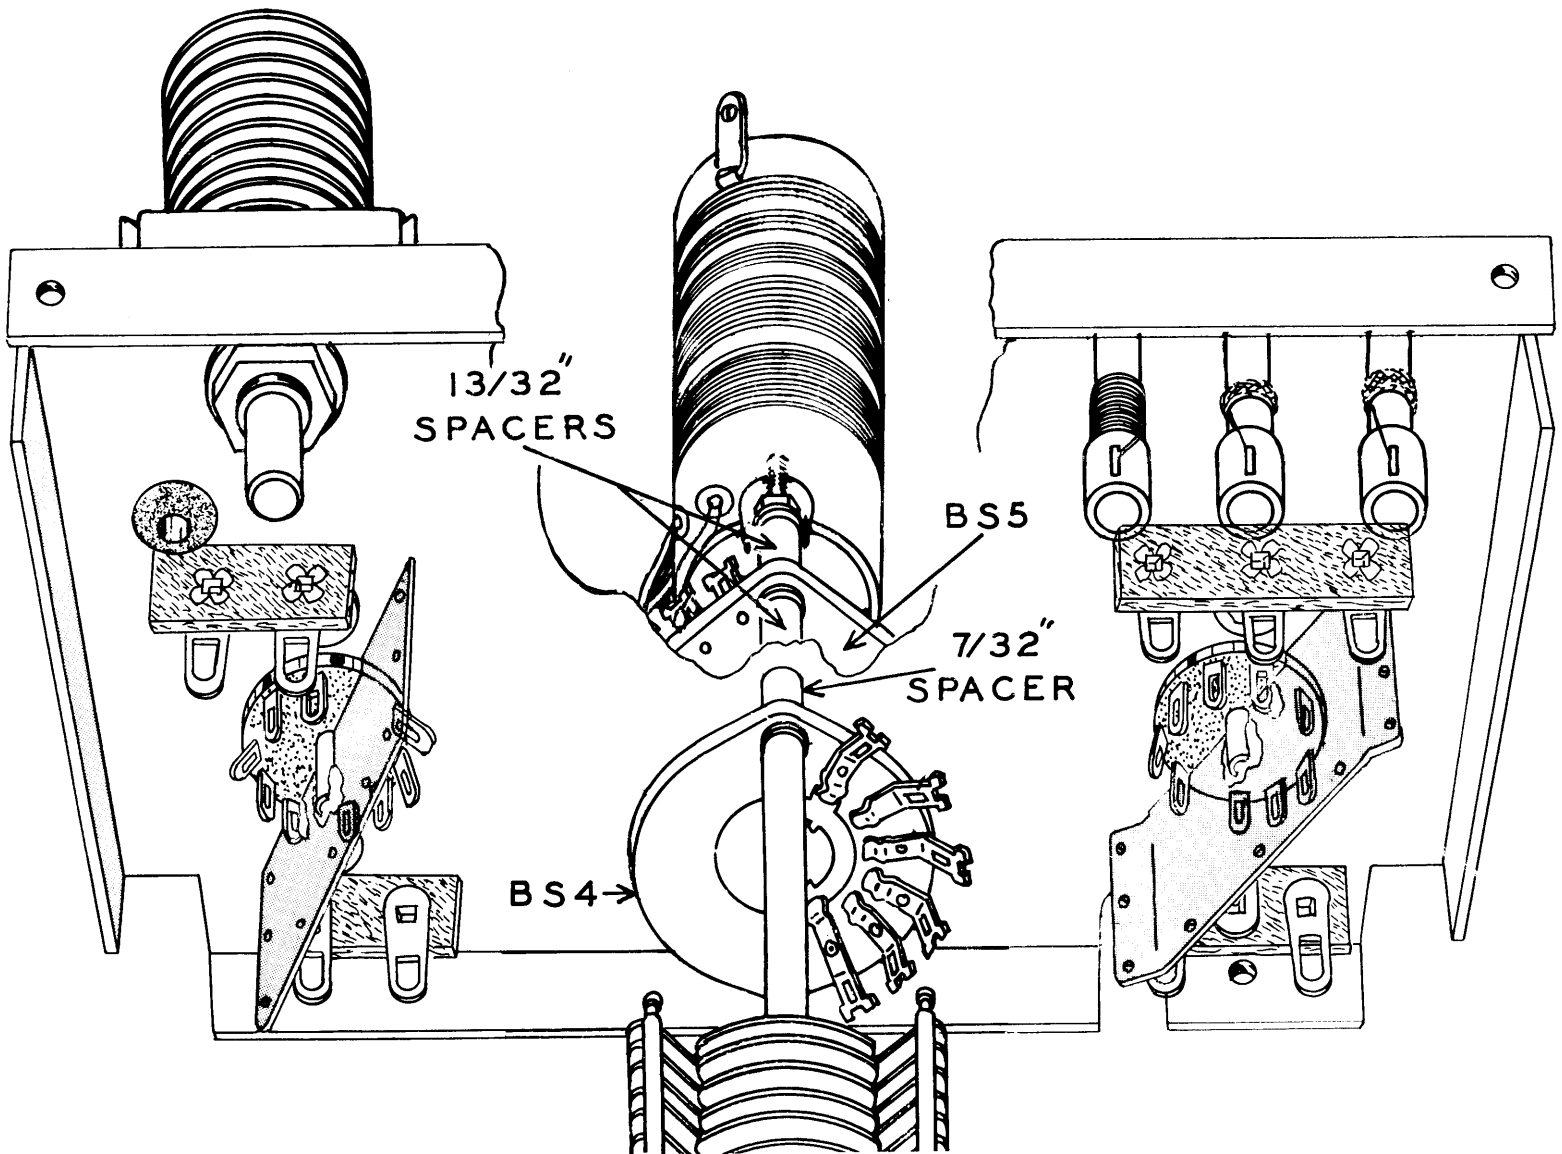

Figure 11
- (✓) Select the balanced modulator sub-chassis. Remove the first two spacers on each of the long bolts which hold the band switch assembly together. Referring to Figure 11 on page 34, properly orient the RF sub-assembly chassis and insert the band switch bolts and shaft through the openings at BS provided in the chassis. Replace the spacers and place the single wafer and coil assembly in place, as shown. Using wire cutters, clip and enlarge the coil mounting lugs if necessary. Secure with the hardware which was furnished with the switch. Observe very closely the orientation of the wafer rotor. Rotate it, if necessary to the position which the band switch is turned to. A small marker notch is located on the shaft hole of each rotor in the wafer. When properly assembled, all markers will "line up".